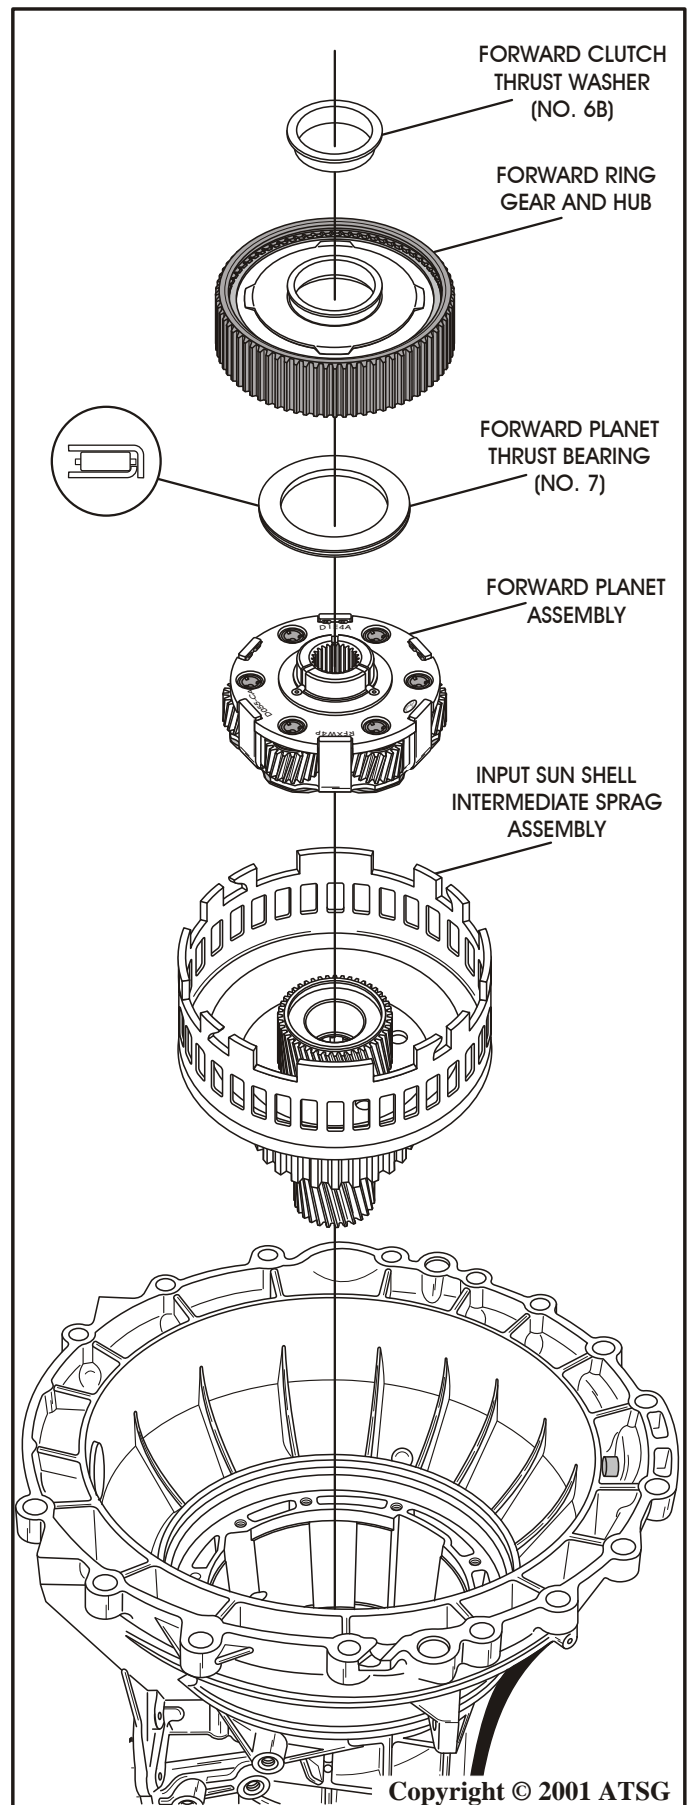

Figure 150
24. Install the pre-assembled input shell and sprag assembly, as shown in Figure 150, by rotating into position.
25. Install the pre-assembled forward planetary assembly, as shown in Figure 150, by rotating into position.
26. Install forward planetary thrust bearing (No 7), in the direction shown in Figure 150, and retain with a small amount of Trans-Jel®.
27. Install the forward ring gear and hub, as shown in Figure 150, by rotating into position.
28. Install forward clutch thrust washer (No. 6B), as shown in Figure 150.